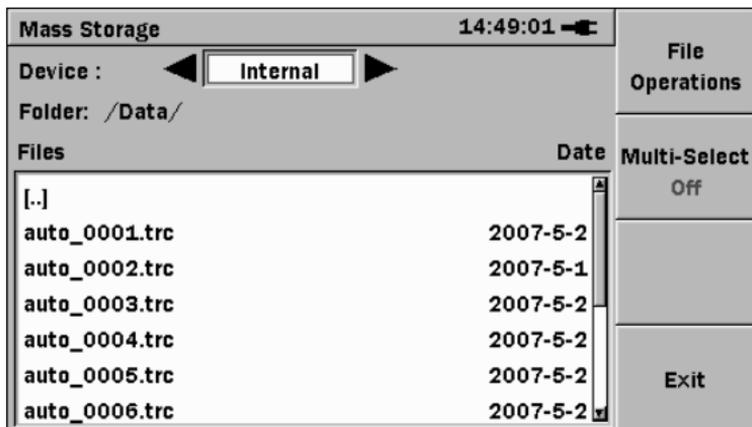

Figure 3-12: Mass Storage – File Operations screen
2. Highlight **Mass Storage** and then press the **Set key**. The Mass Storage File Operations screen appears (see Figure 3-12).